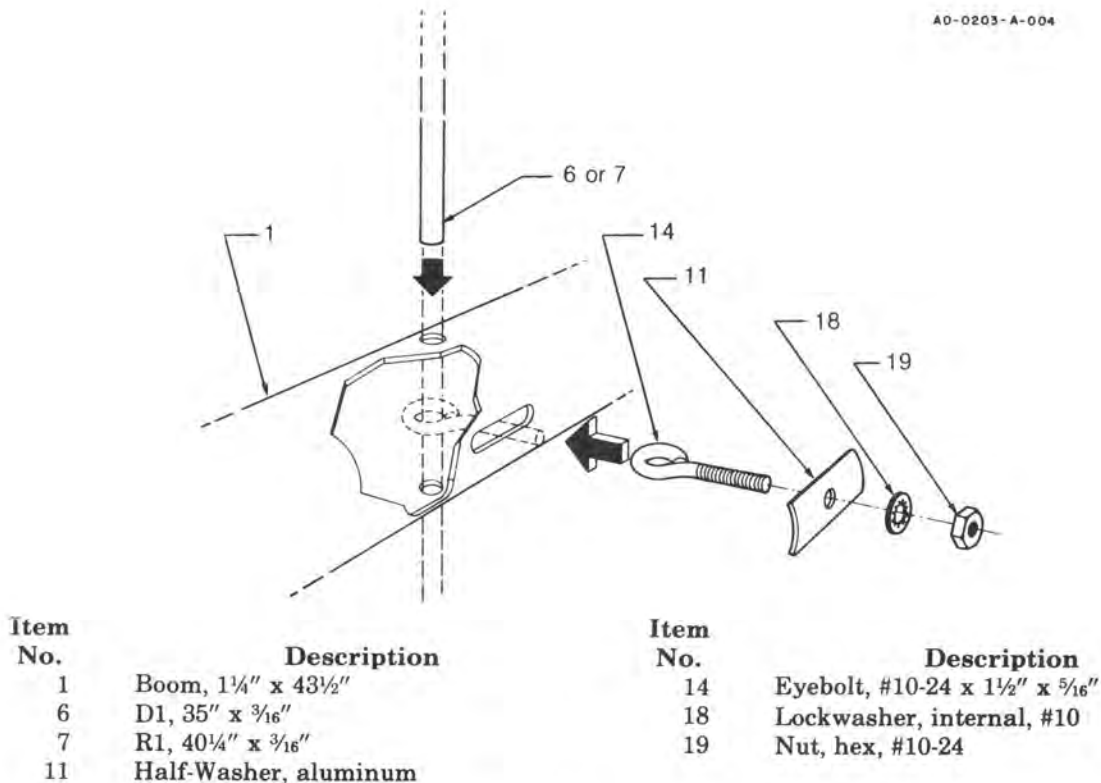

Figure 5 — Detail A
NOTE: If 50 ohm coaxial cable is used to feed the antenna, select the supplied balun at this time. Wrap the balun with tape at three locations as shown in Figure 5, Detail B.
Use the #10-24 x $2\frac{1}{2}$ " bolt to fasten the element-to-boom insulator to the boom. Refer to Figure 5, Detail B.
Use the two (2) #10-24 x 1¼" bolts to assemble the Driven Element as shown in Figure 5, Detail B. Pay particular attention to the connections of the beta rod, balun and feedline.